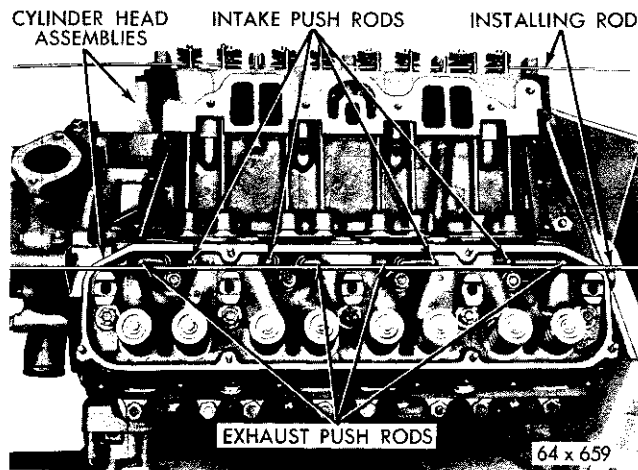

Fig. 7—Push Rods Installed
(5) Inspect the push rods and replace any worn or bent rods.
(6) Install the push rods with the small ends in the tappets maintaining alignment, using rod, as shown in Figure 7.